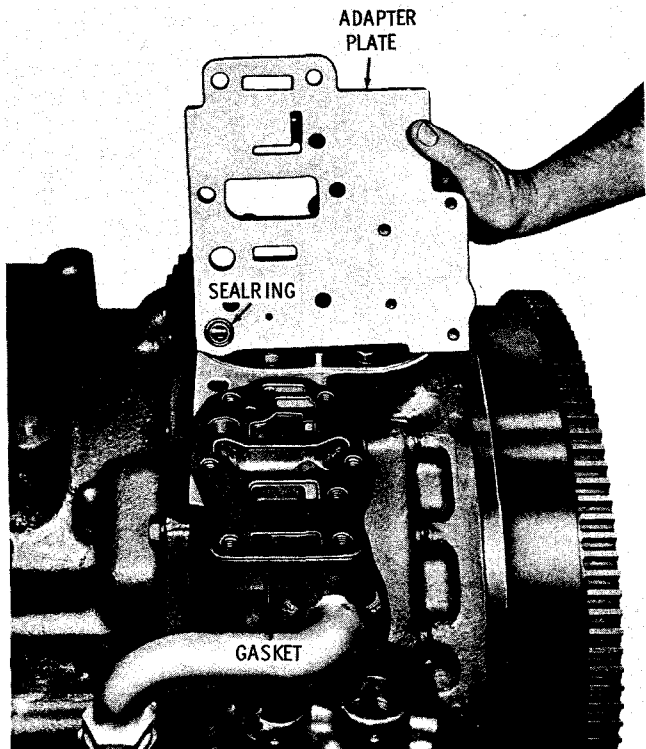

Fig. 7-107. Installing stator control valve adapter plate (VCLT, VCLBT)
(19) Install the gasket, adapter plate and sealing (fig. 7-107).